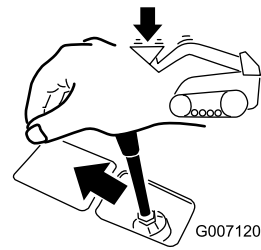

Figure 27
2. Lower the loader arm (Figure 27).